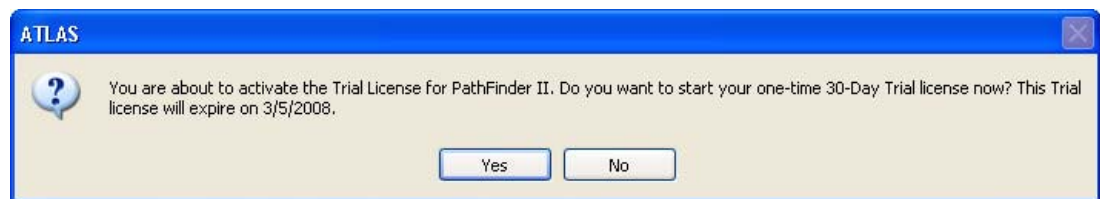

Figure I-2 Trial License Dialog
1. Click **Register** under the **Trial** heading for the license you want to register. A dialog will be displayed similar to the one shown below (Figure I-2).